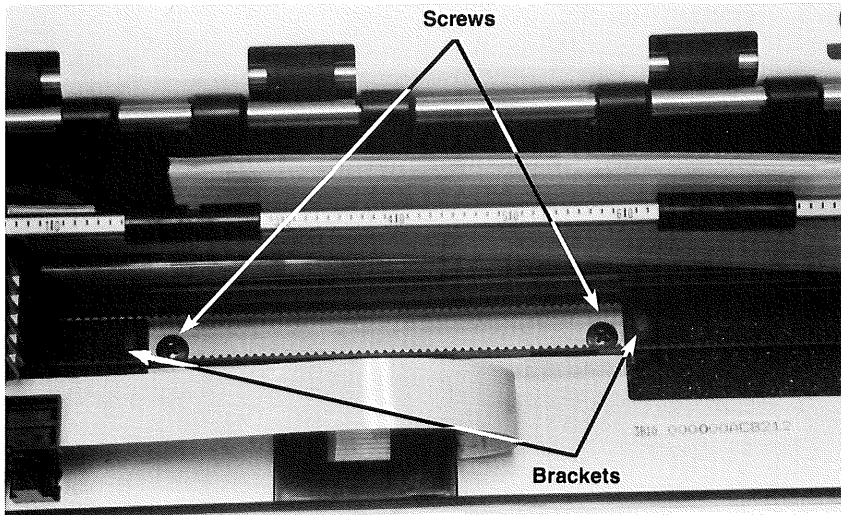

Figure A3.
3. Use the Phillips screwdriver to unscrew the two red screws that secure the two red transport locking brackets. Remove the screws and brackets. See Figure A3.